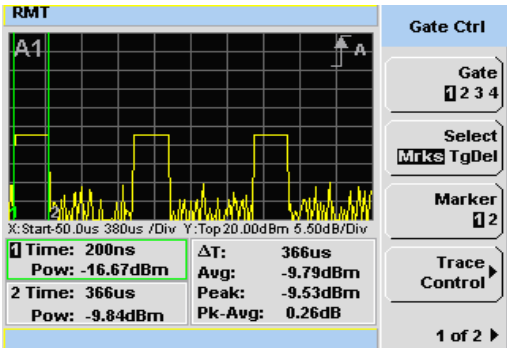

Figure 7. Gate Control display
6. View the Gate Control screen.	Press  . On the display is the pulse trace with delta time, delta average, delta peak, and delta peak-to-average power ratio for Gate 1. See Figure 7.